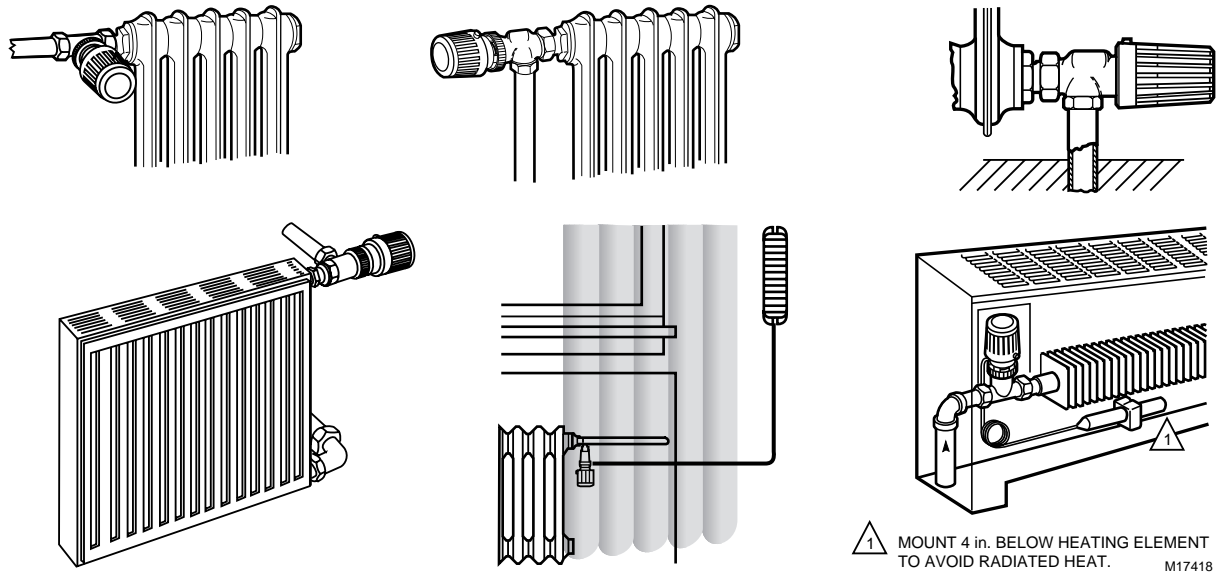

Fig. 5. Typical locations for thermostatic radiator valves.
- d. At the selected location, do not expose the T5086 to drafts, direct sunlight, or cover it with curtains. For valve/sensor correct location, see Fig. 5.
1. Horizontally mount the T5086A Thermostatic Actuator for accurate temperature regulation. If you cannot mount the T5086A horizontally, due to space limitations, use a T5086C Thermostatic Actuator with remote sensor. See Fig. 5.